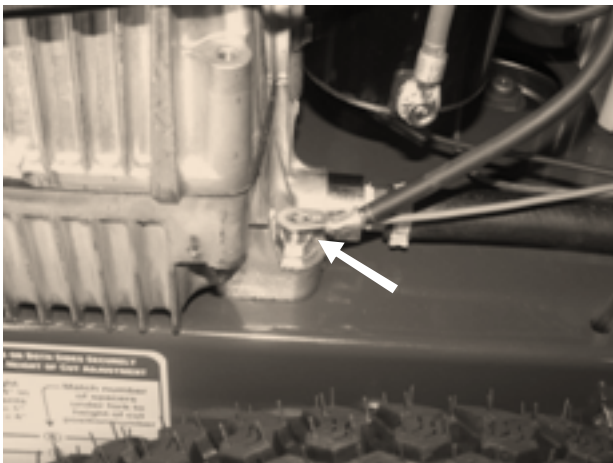

Figure 31
2. Using a ½ wrench, remove the keps nut and remove the black ground cable and insulate end of cable **Figure 31**.